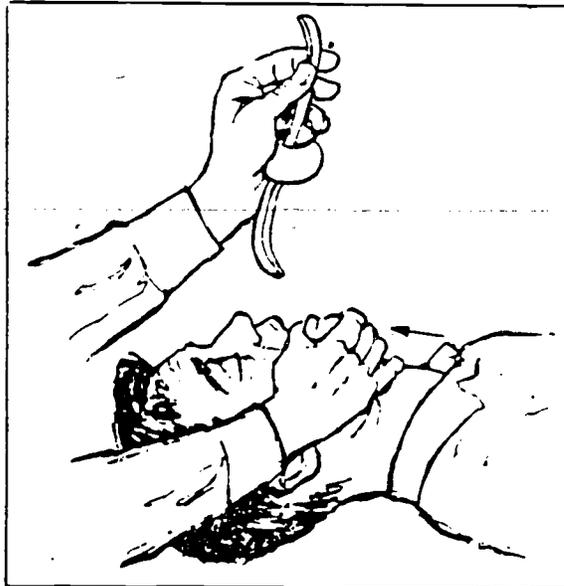
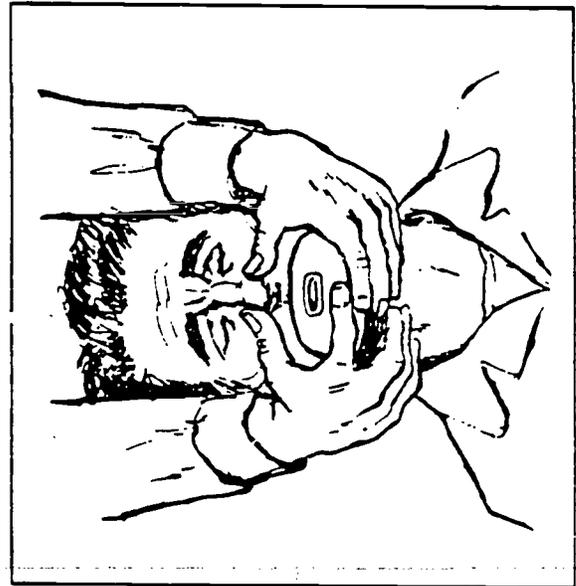

Figure 1-17. Inserting the airway
Figure 1-18. Positioning the airway.
- Tilt the patient's head backwards and insert the airway in the manner described for oropharyngeal airways. (See fig. 1-17.) When using the S-tube, make sure that the cupped flange is properly positioned. (See fig. 1-18.)
- Prevent leakage by pinching the patient's nose closed and pressing the flange firmly over the mouth. Hold the chin up so that the front of the neck is stretched. (See figs. 1-18 and 1-19.)